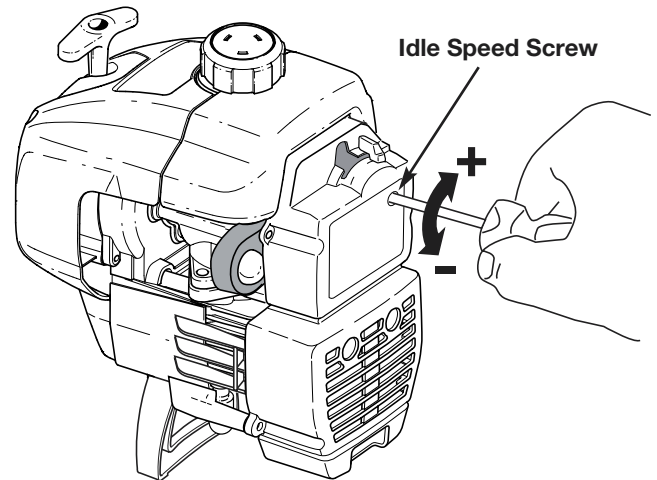

Fig. 28
The idle speed of the engine is adjustable through the Air filter/Muffler cover (Fig. 28).
2. Release the throttle trigger and let the engine idle. If the engine stops, insert a small phillips or flat blade screwdriver into the hole in the air filter/muffler cover (Fig. 28). Turn the idle speed screw in, **clockwise**, 1/8 of a turn at a time (as needed) until the engine idles smoothly.